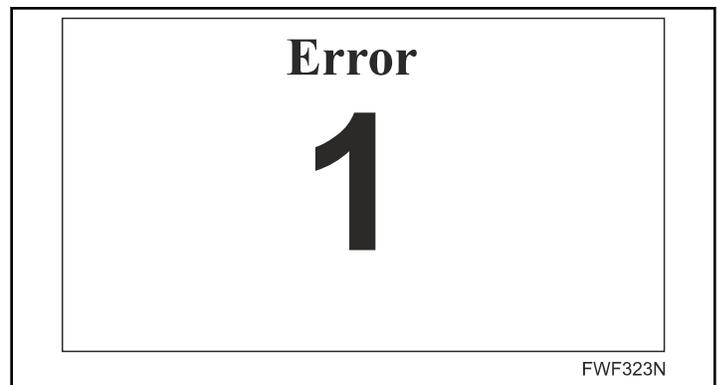

Figure 15
- In case of an emergency state during which the temperature of the ironing cylinder reaches the limit value, the safety thermostat is activated and a flashing warning message 1 is displayed - *Figure 15*.